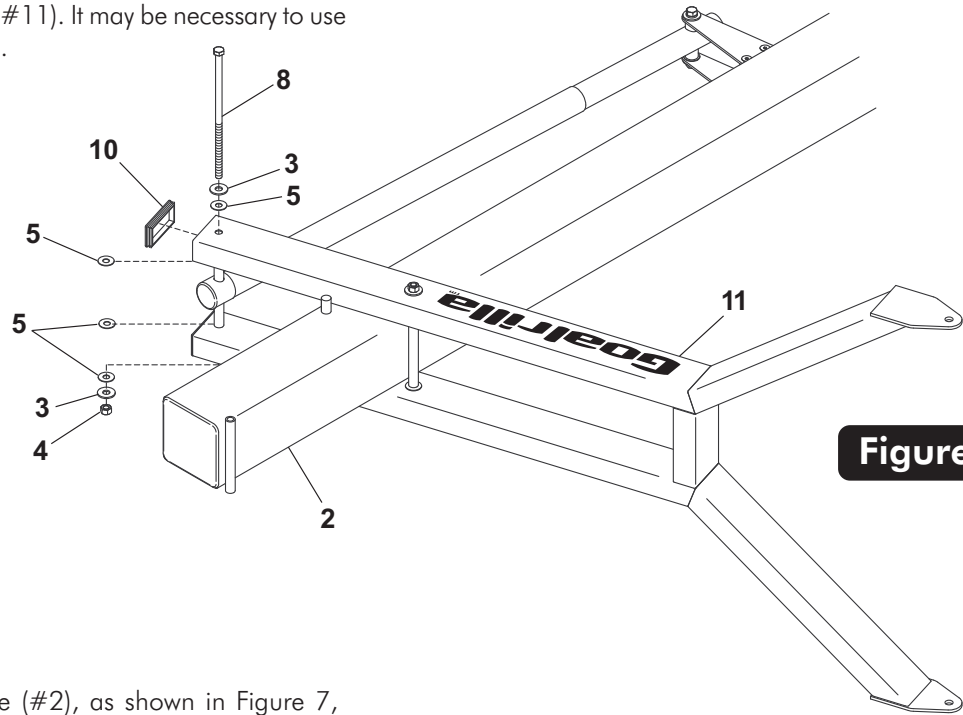

Figure 6
- Secure Actuator (#16) to Lower Arm (#11) using one bolt (#8), two flat washers (#3), four plastic washers (#5) and one hex nut (#4). See Figure 6. Tighten both bolts (#8) securing Lower Arm (#11).